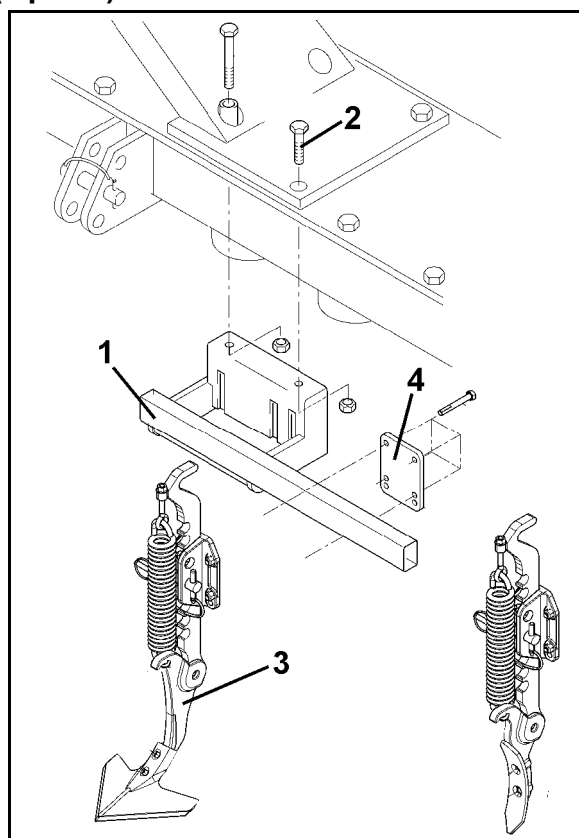

Fig. 21
The soil tillage implement can be used at shallower working depths if these deep marks are first removed by the tractor wheel mark eradicators (Fig. 21).
2. Connect the support tube (Fig. 21/1) with the soil tillage implement by using two lid fastening bolts (Fig. 21/2).
3. Use clamping plates (Fig. 21/4) and bolts to affix the wheel mark eradicator (Fig. 21/3) on the carrying tube.